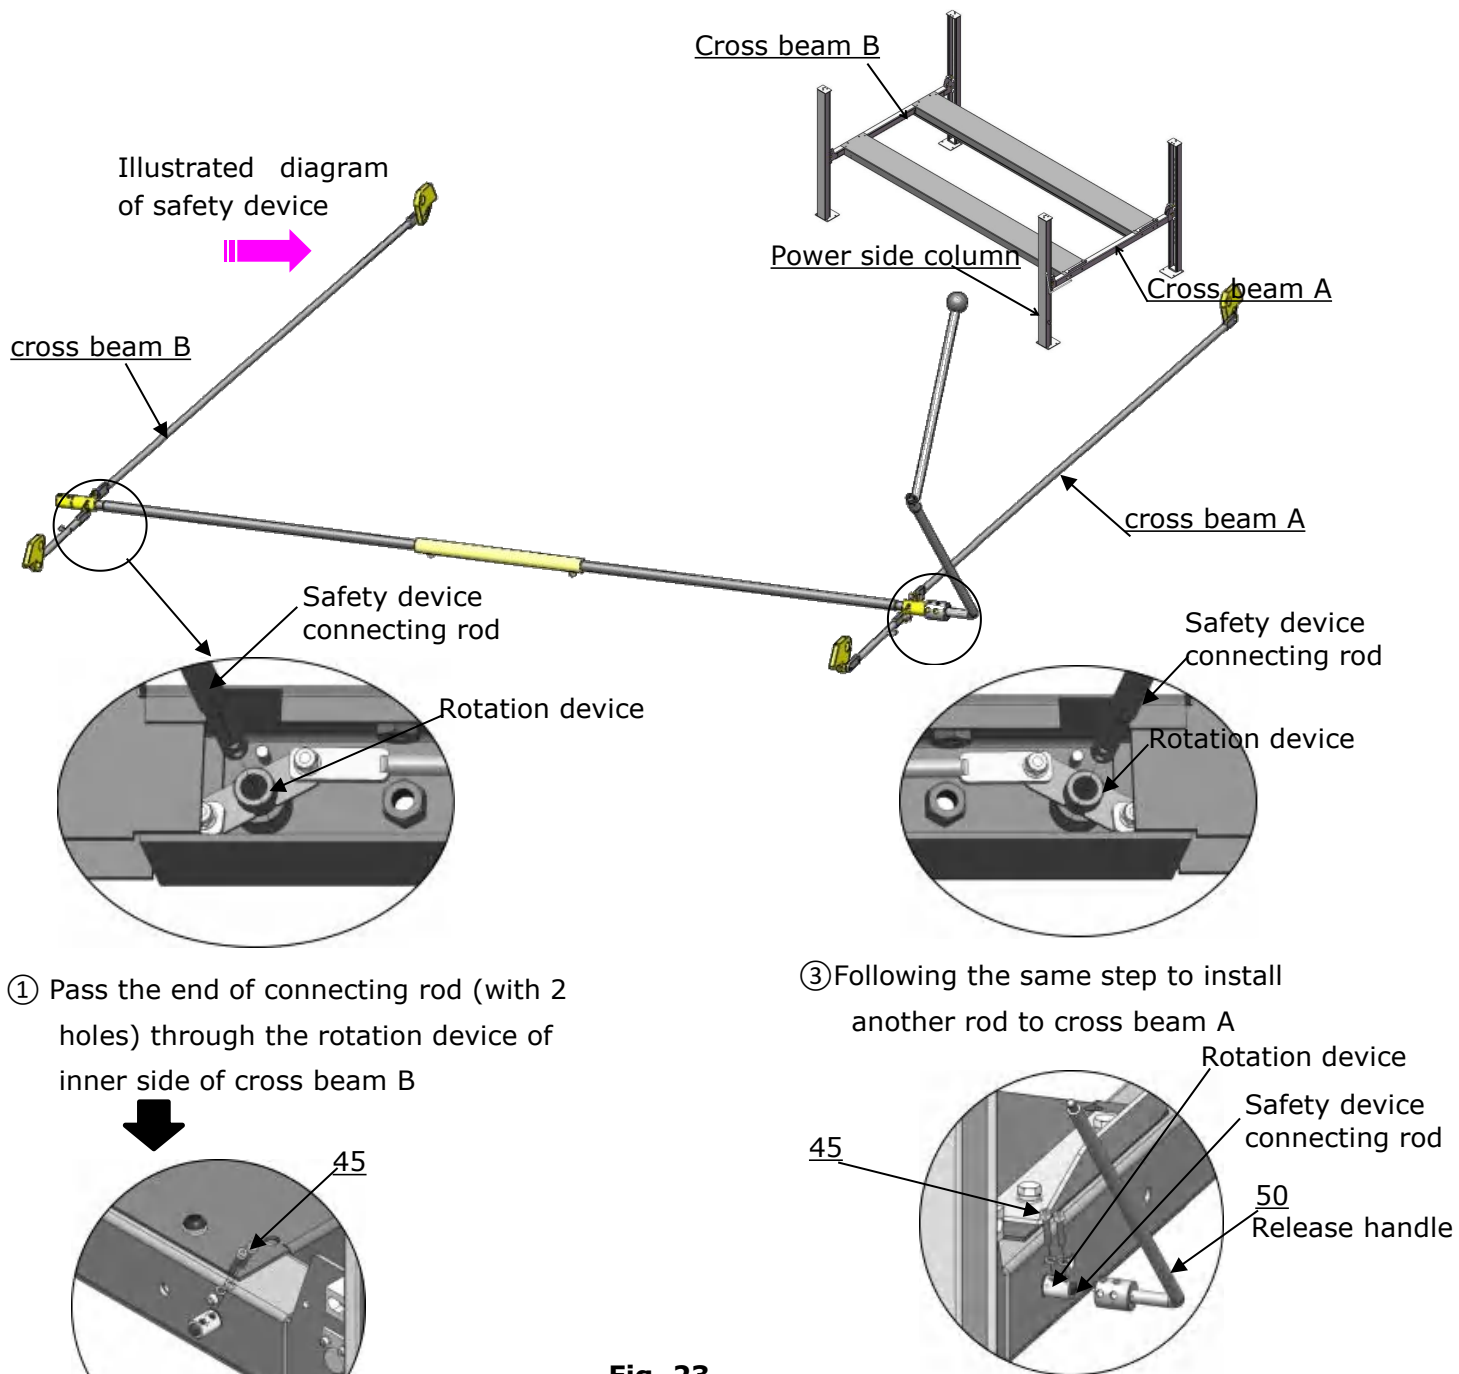

Fig. 23
1. Install safety device connecting rod and release handle, see fig 23